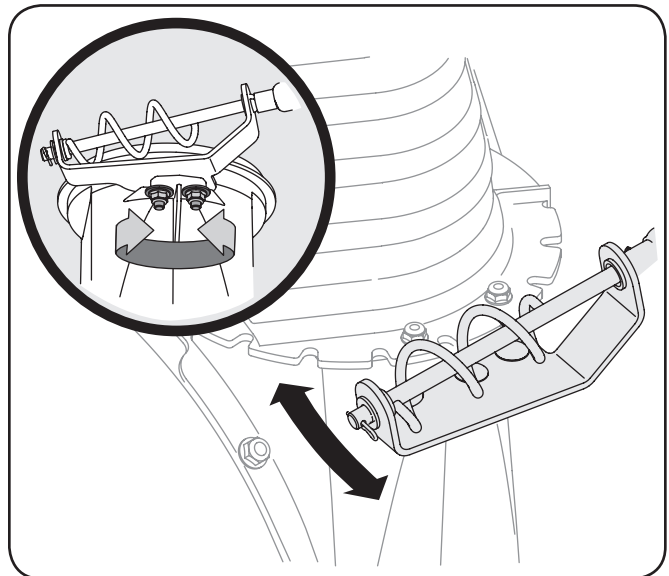

Figure 6-5
1. Loosen the two nuts which secure the chute bracket and reposition it slightly. See Figure 6-5.